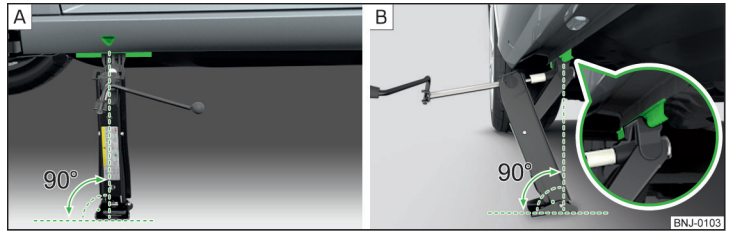

Fig. 276 Attach lifting jack
- › Position the base plate of the jack with its full area resting on level ground and ensure that the jack will fit in the jacking point when raised » Fig. 276 - [A].
- › Use the crank to raise the jack until its pawl covers the jacking point » Fig. 276- [B].